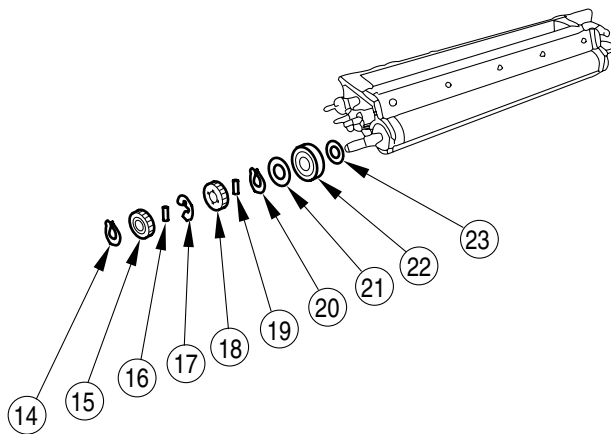

Figure 4-610
- 10) Remove the grip ring ⑭, gear ⑮, E-ring ⑰, gear ⑱, grip ring ⑳, plastic film ㉑, roll ㉒, and spacer ㉓ in the order indicated in Figure 4-610 from the cylinder shaft at the rear.